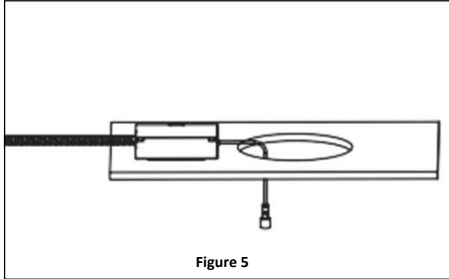

Figure 5
3. Connect the supply wires to the wiring compartment and make wiring connections according to the wiring diagram. Leave the keyed connector end out of the hole and visible. **See Figure 5.**